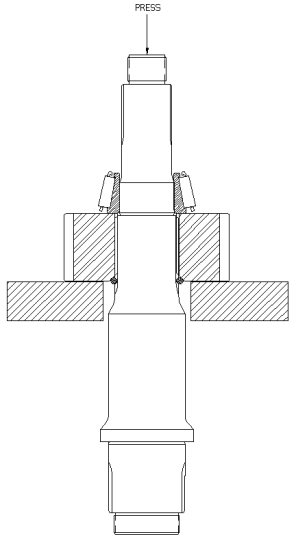

Fig. 30
4. Invert the shaft to remove direct-drive gear and rear support bearing. *See Fig. 30.*